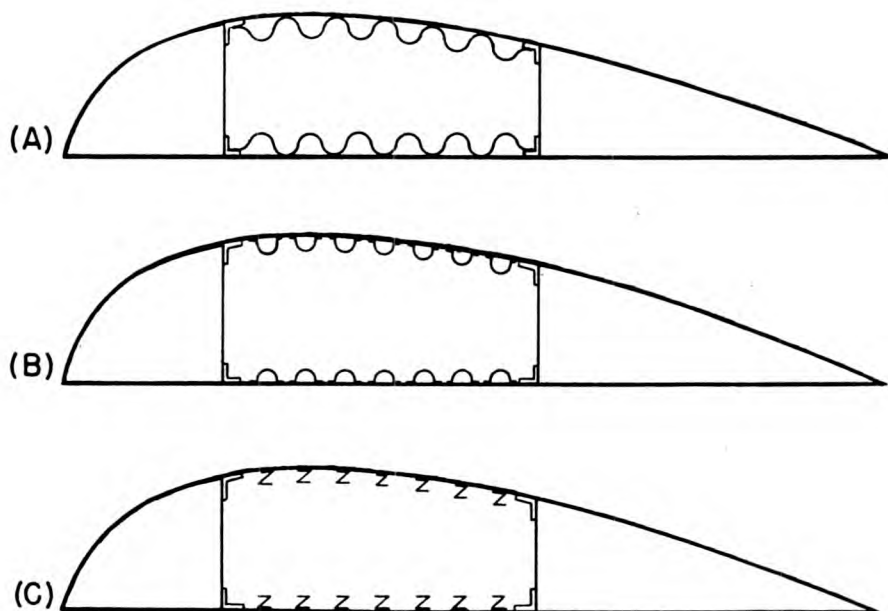

Figure 17.—Cross sections of some types of box wing beams.
(B) of figure 17. Here the entire wing, excluding the leading and trailing edges, is the box beam. In such a wing, THE FLANGES OF THE BEAM ARE THE TOP AND BOTTOM SURFACES OF THE WING.
In figure 17, these webs take the POSITION, but NOT THE PLACE, of wing SPARS. The webs do not take over the same functions as would spars in that position.